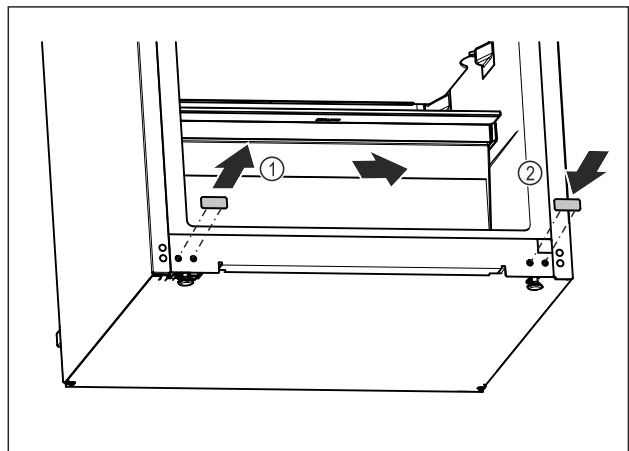

Fig. 12
- Pull out the cover plug. Fig. 12 (1)
- Insert the cover plug on the opposite side. Fig. 12 (2)